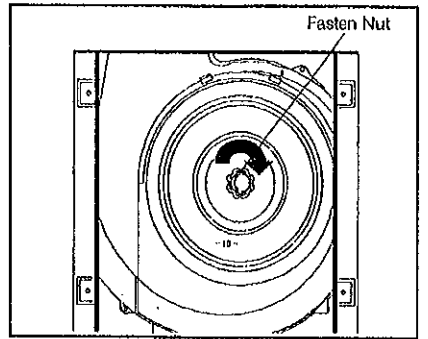

Fig. 15
- **(Fig. 15)** Remove fan housing retainer nut.